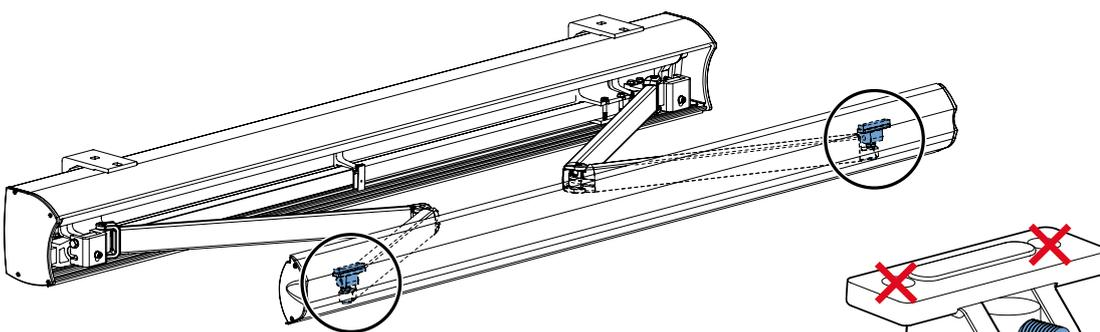

fig. 6.2 Location arm-connections
2. The arm-connections are located at the end of the folding arms (side of the front bar). See figure 6.2.